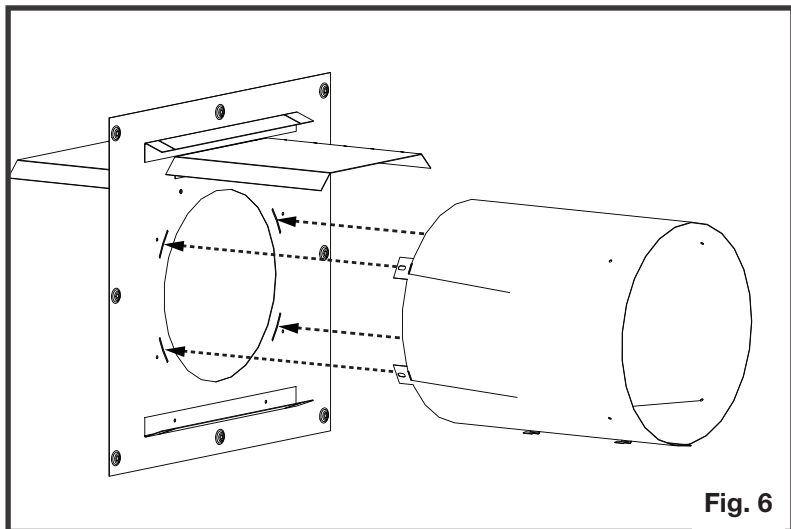

Fig. 6
- 3. Insert the vent sleeve tabs into the firestop spacer slots then bend the tabs over to secure to the firestop spacer along with 4 supplied fasteners (Figure 6).
6. Secure the vent shield with two fasteners (supplied) to the front upper frame (Figure 6).